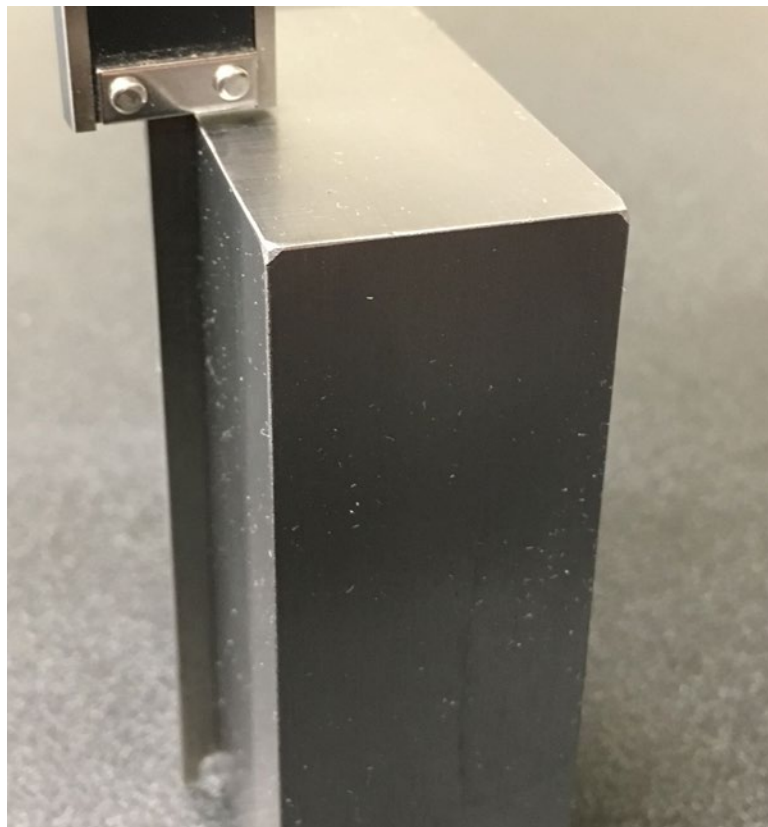

Figure 7 (3 inch block)
- 5.6** Place the gauge blocks on end, using the depth part of the calipers, measure and record the depth measurement at 1 in., 3 in., 6 in., and 12 in., if applicable. (Figure 7)